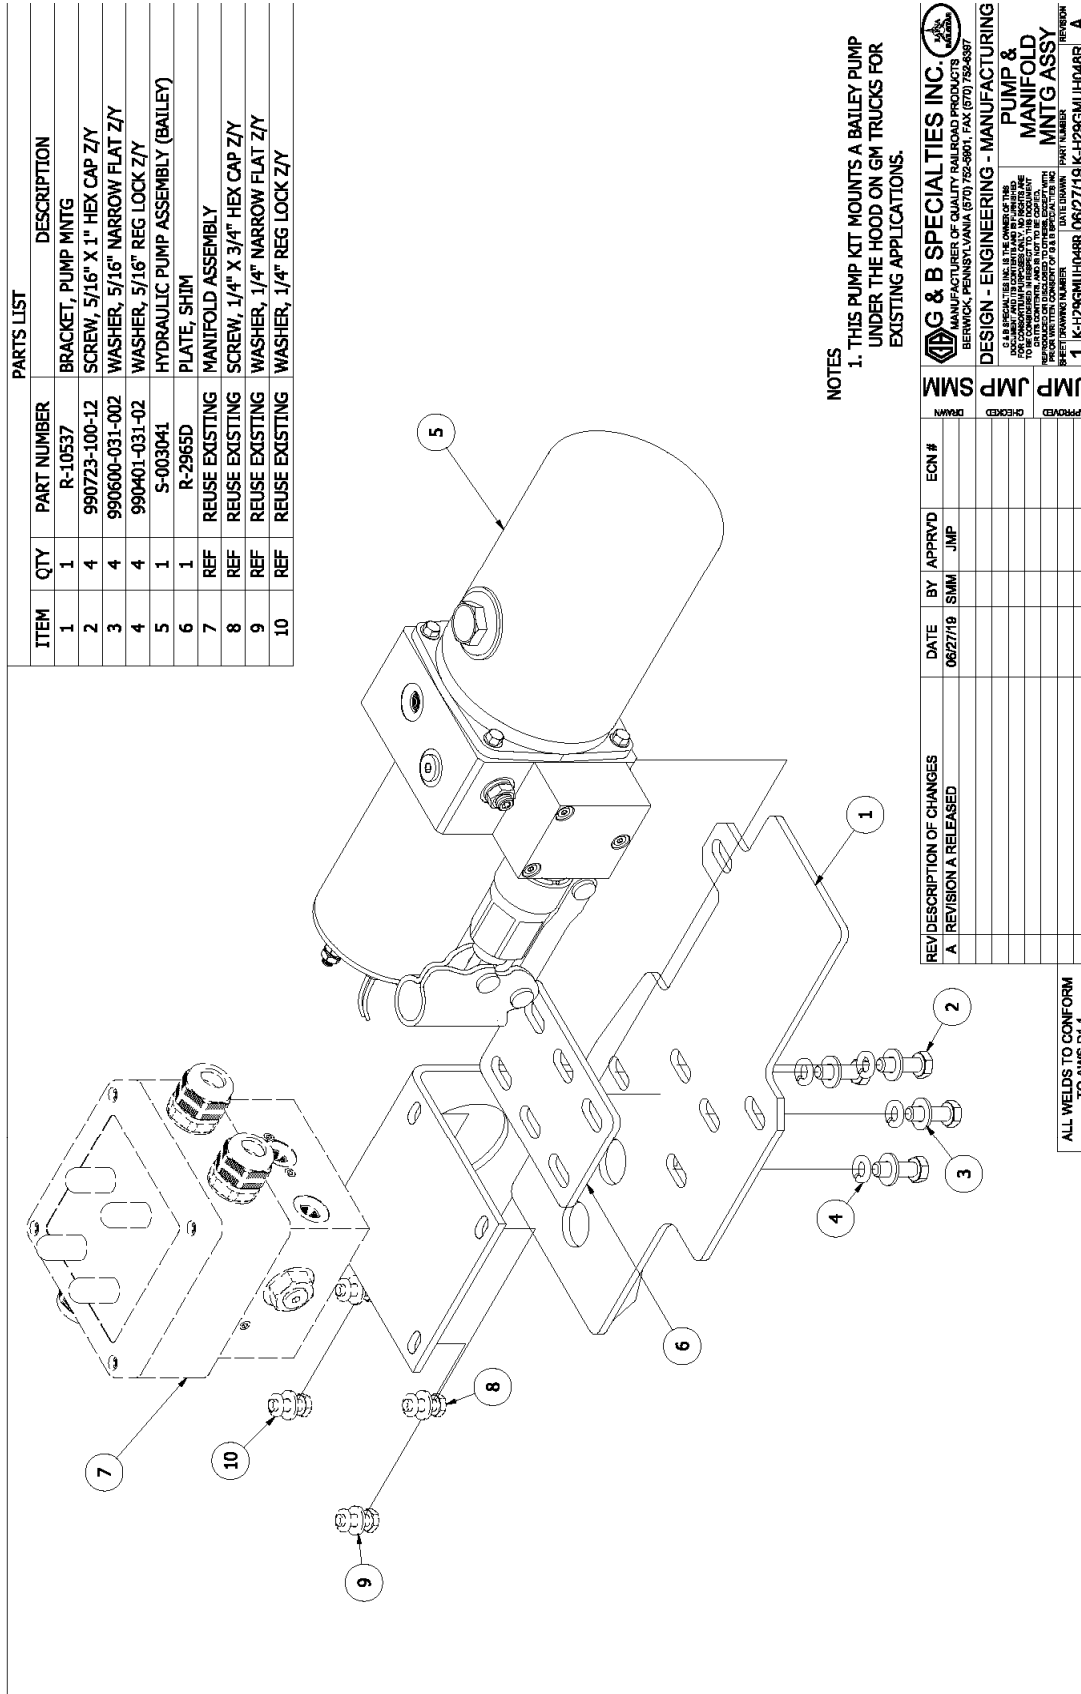

Figure 5
7. Bench assemble hydraulic pump, manifold and pump bracket as shown. (Figure 5)